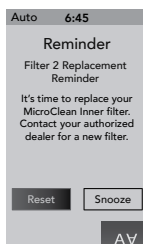

Figure 15.0e
24. MicroClean Inner Filter Reminder: This message will appear when the filter reminder time has expired (Figure 15.0e). The MicroClean Inner filter must be replaced.